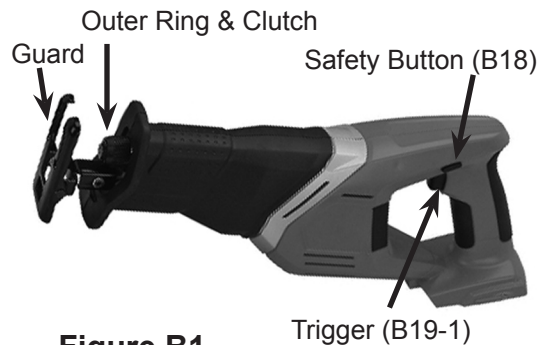

Figure B1
- **DO NOT** install the Battery Pack (1) until **AFTER** you complete the following steps to set up the Reciprocating Saw for use.
- Refer to Figure B1 for the location of the parts of the saw for the following steps.